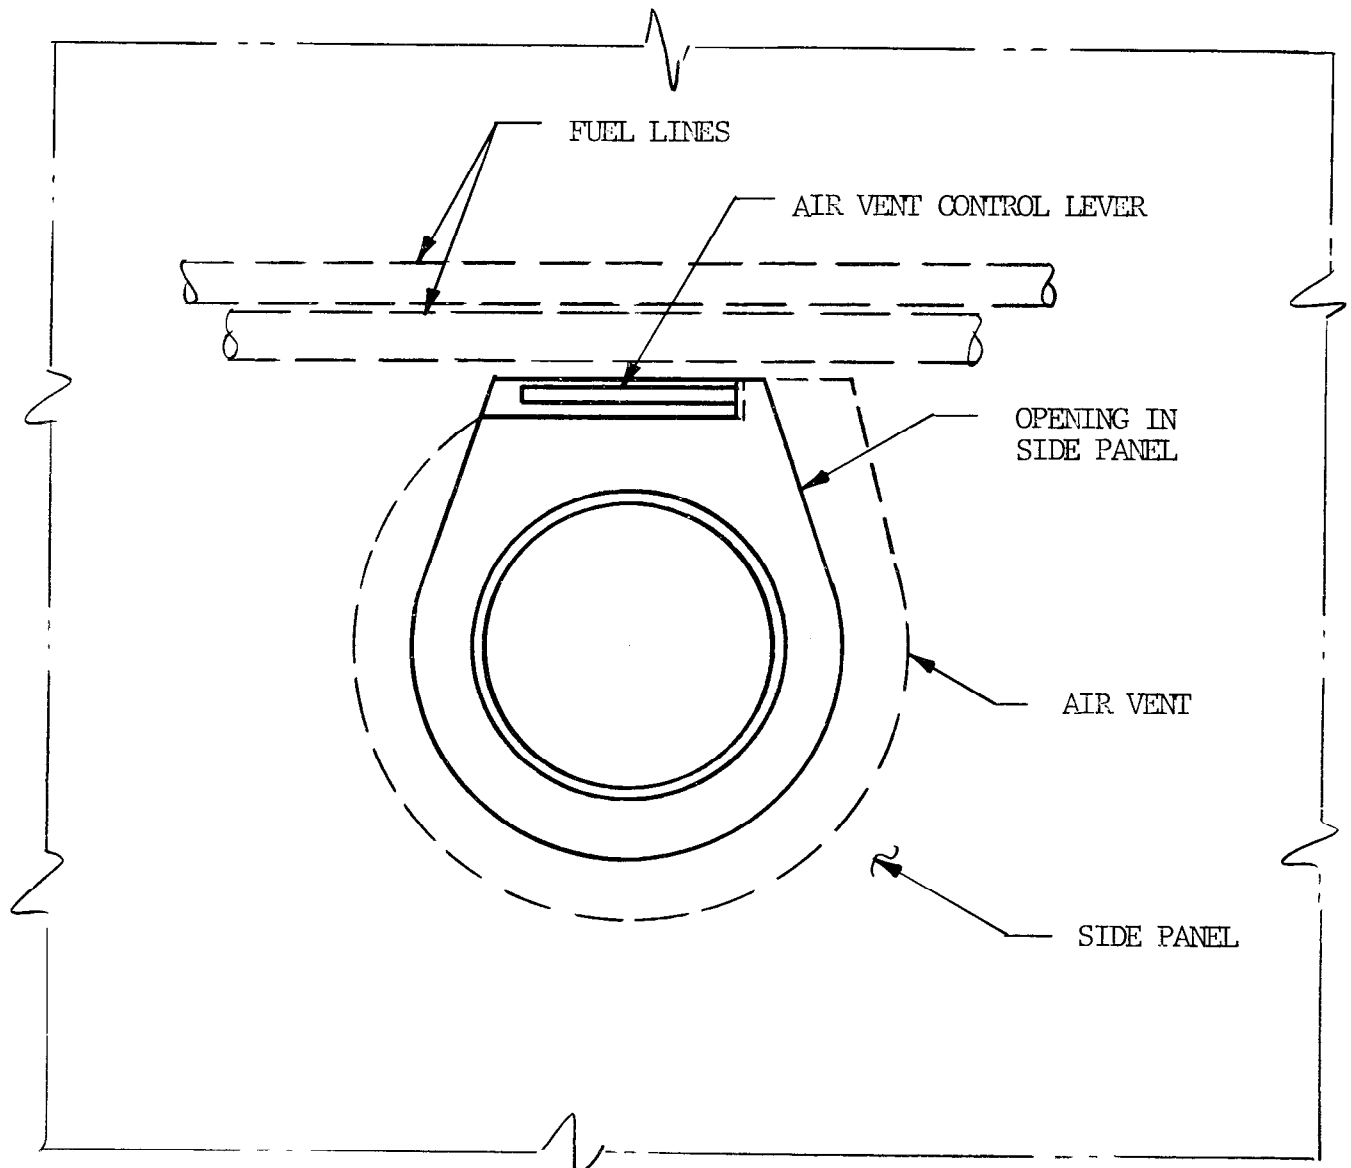

FIGURE 2
2. Inspect for clearance between fuel line and air vent lever. (See Figure 2). It will be necessary to rotate vent lever from open to close position to ascertain clearance throughout full travel. If a minimum of .05 inch exists, reinstall air vent cover and proceed to Instruction 7.